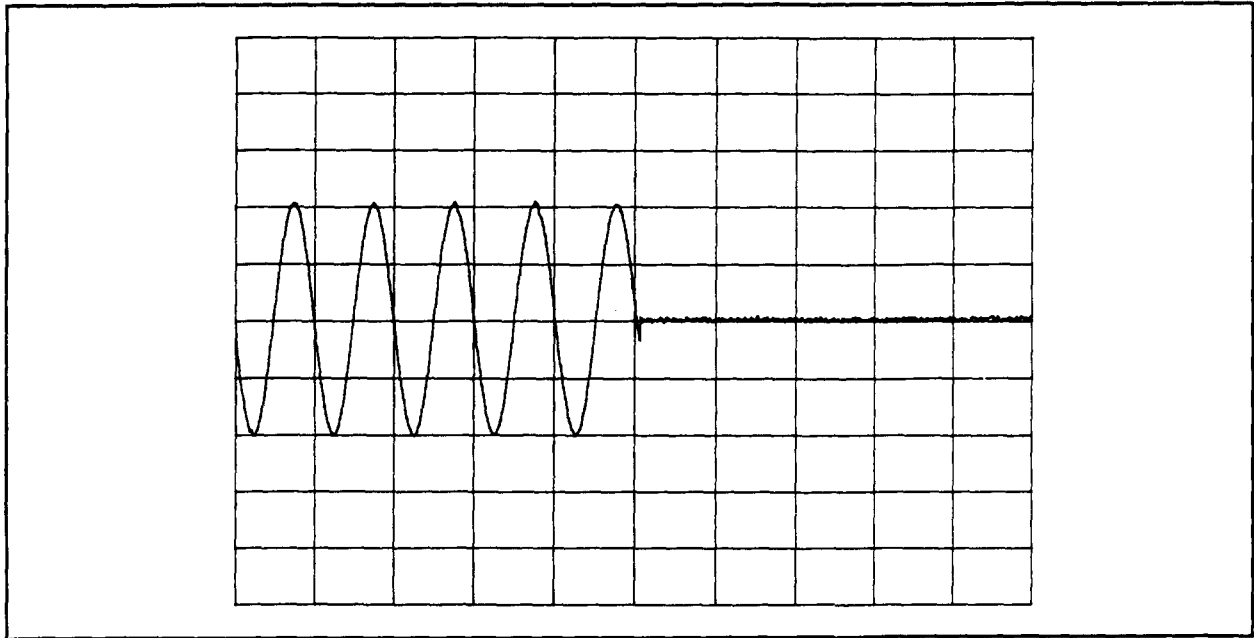

Figure 4-8. *Tone Burst Waveform with Slight Negative Slewing*
3. Adjust the oscilloscope's vertical gain and sweep speed to view the 1 kHz output burst from the Multifunction Synthesizer. The waveform should appear similar to the one shown in Figure 4-8.